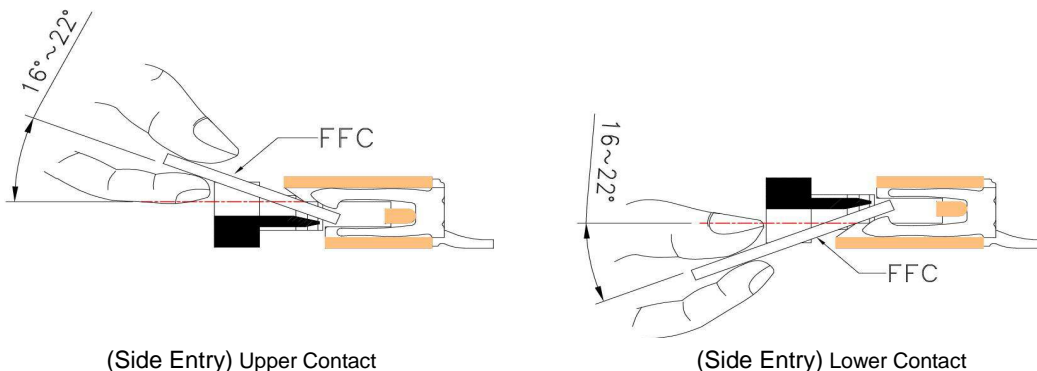

Figure 4.2.2
- ※ It is recommended inserting the FFC at an angle between  $16^{\circ}$  and  $22^{\circ}$  above the horizontal plane for upper contact connectors, for lower contact connectors, the insertion angle of the FFC should be between  $16^{\circ}$  and  $22^{\circ}$  below the horizontal plane (See Figure 4.2.2)